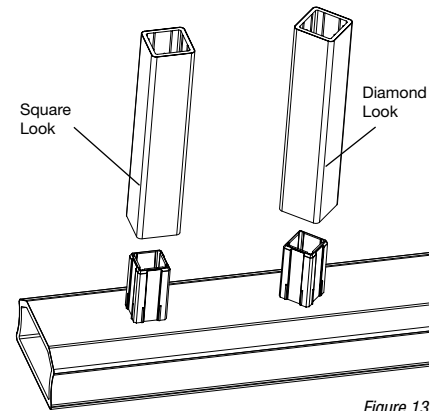
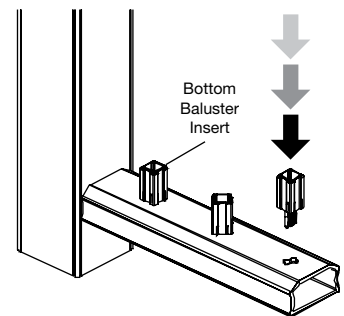

Figure 13
Figure 14
14. Determine the desired baluster design (squared look, diamond look or a mixed pattern of the two) (Figure 13).
16. Fully engage the bottom baluster insert (Figure 14) into each baluster slot in the bottom rail. Orient the bottom baluster insert to achieve the desired look (Figure 13).